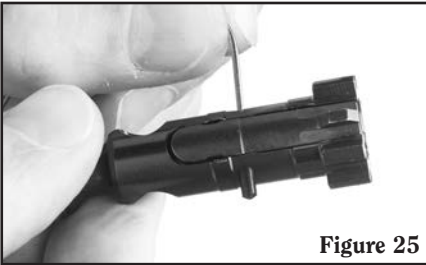

Figure 25
- g. Use a small punch and remove the extractor pin. (See Figure 25.)